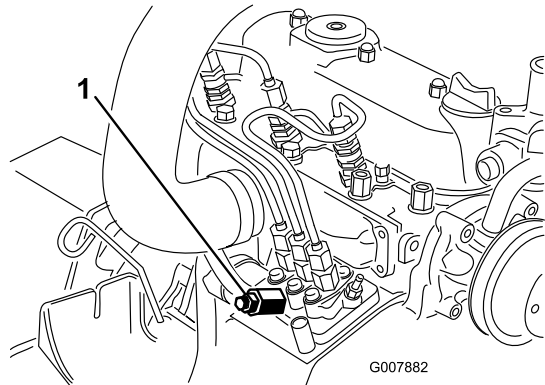

Figure 38
3. Place a rag under the air-bleed screw on the fuel-injection pump and open it (Figure 38).